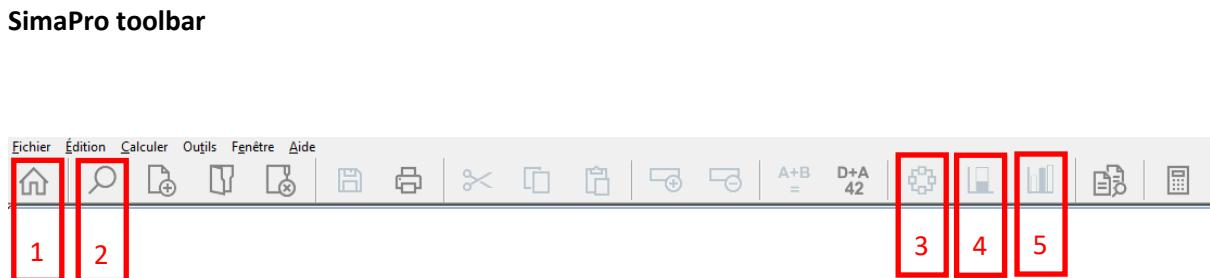

Figure 4 - toolbar
- Compare different life cycles or assemblies. To do this, select them while holding down the ctrl key and click on the "Calculate \ compare" menu (or on the 4 button, Figure 4)
- Analyze a life cycle or an assembly. This makes it possible to have the impacts by details of the life cycle, respectively of the assembly. **In particular, the details per phase of the life cycle.** Select and click on the menu " Calculate \ analysis " (or on the button 3 Figure 4)